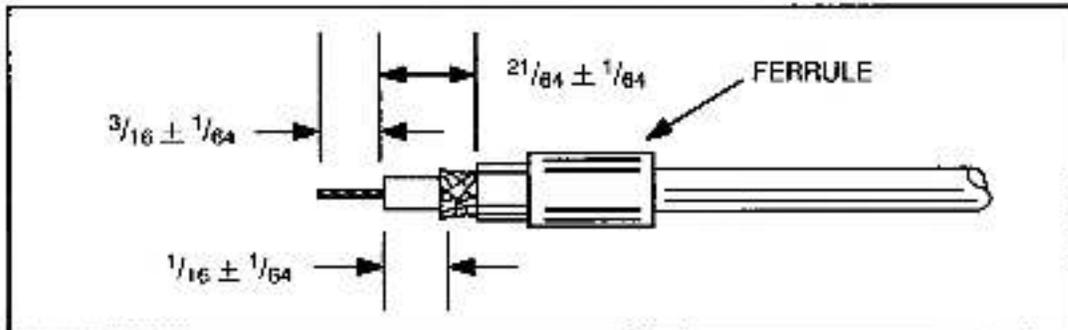

Figure 3.9 - RG-59/U (Belden 9259) Cable Stripping Dimensions
- Step 2. Strip the coax using the dimensions shown in figure 3.9. Be sure the shield braid wire is cut to the correct length and cannot touch the center conductor.